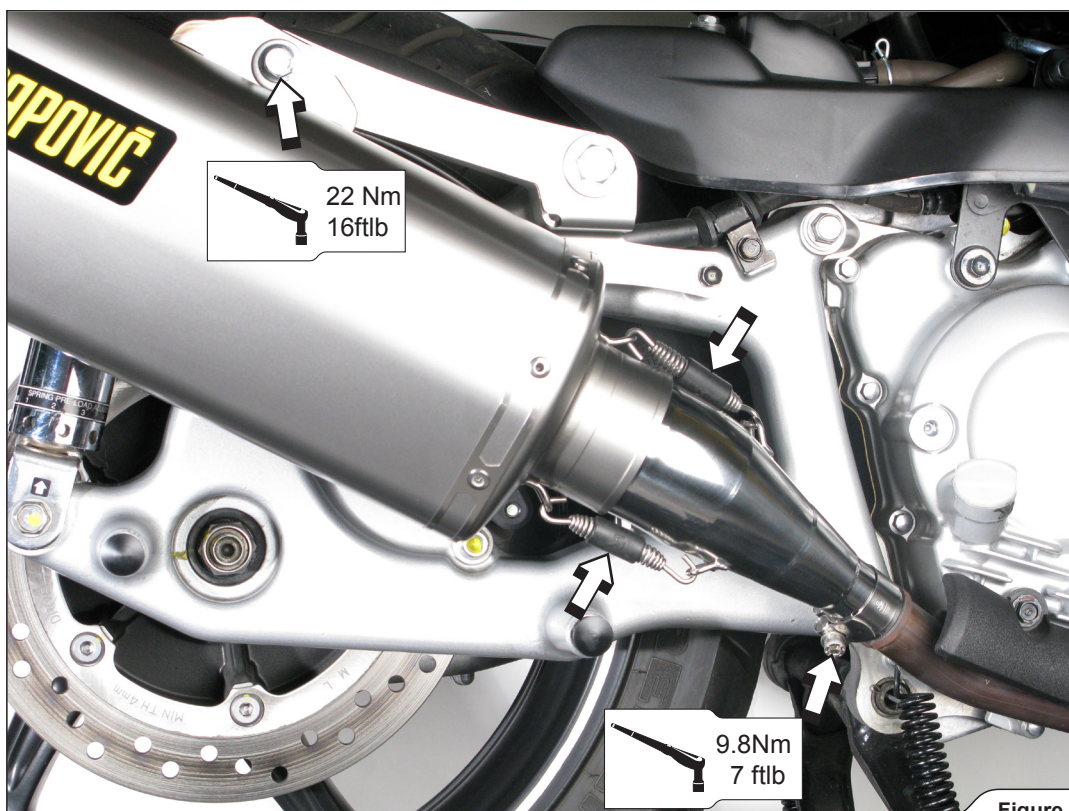

Figure 4
2. Correctly install Akrapovič metal clamp onto the Akrapovič link pipe and insert the catalyst into the link pipe as shown (**Figure 4**).